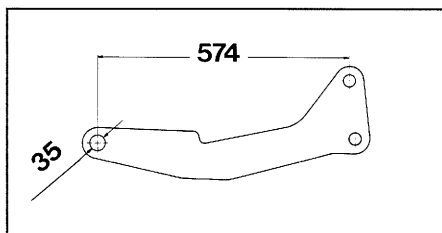

Fig. 10
2. Carrying arms (Fig. 10) for reciprocating power harrows RE-1, RE-Vario and RE-DUO